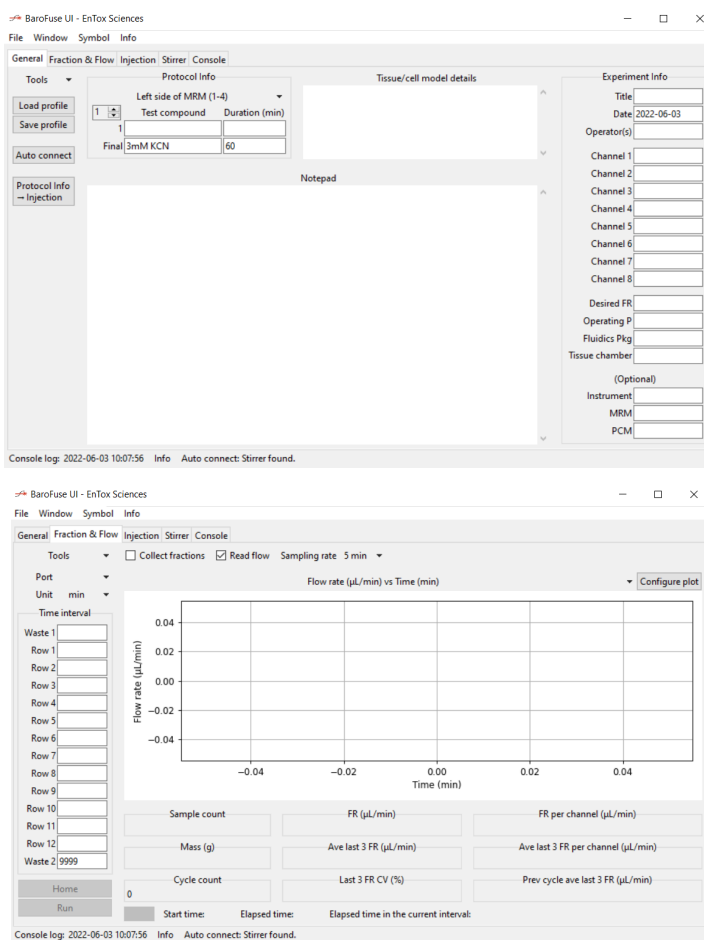

Fig. C12. GUI for Fraction Collector settings.
3. On the laptop, click the "BaroFuse UI" shortcut and the "General" mode window will open (Fig. C12 Top). Fill in all available information on the general page
4. Select "Fractions & Flow" in the top left (Fig. C12 Bottom).